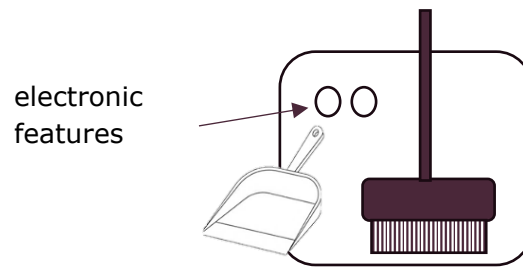

Figure 9
21. Figure 9 shows a concept design of toy cleaning station. A circuit having a 9 V battery shall be used to add an electronic feature to the toy cleaning station.